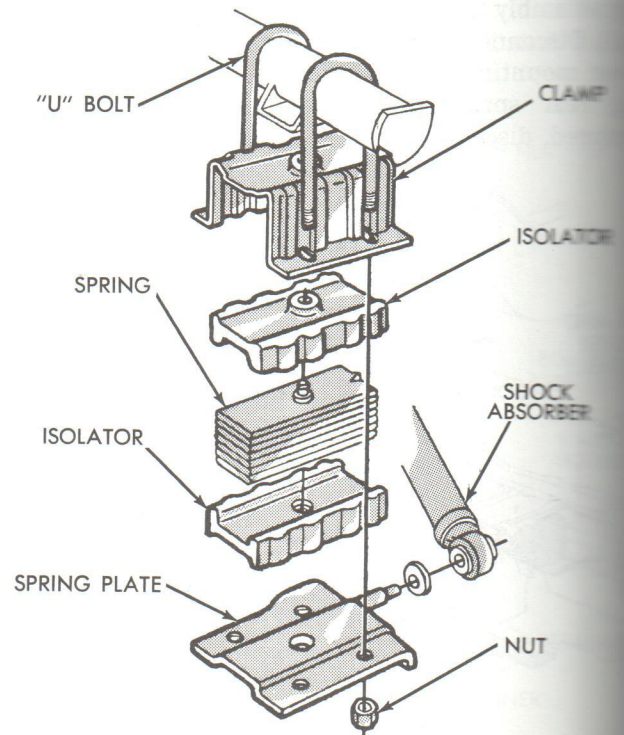

Fig. 13—Rear Spring Isolator (Carline C)
- Position the spring clamp and upper isolator over center bolt followed by bottom isolator and plate on vehicles so equipped (Figs. 13 and 14). Install "U" bolts and nuts. Tighten to 45 foot-pounds.